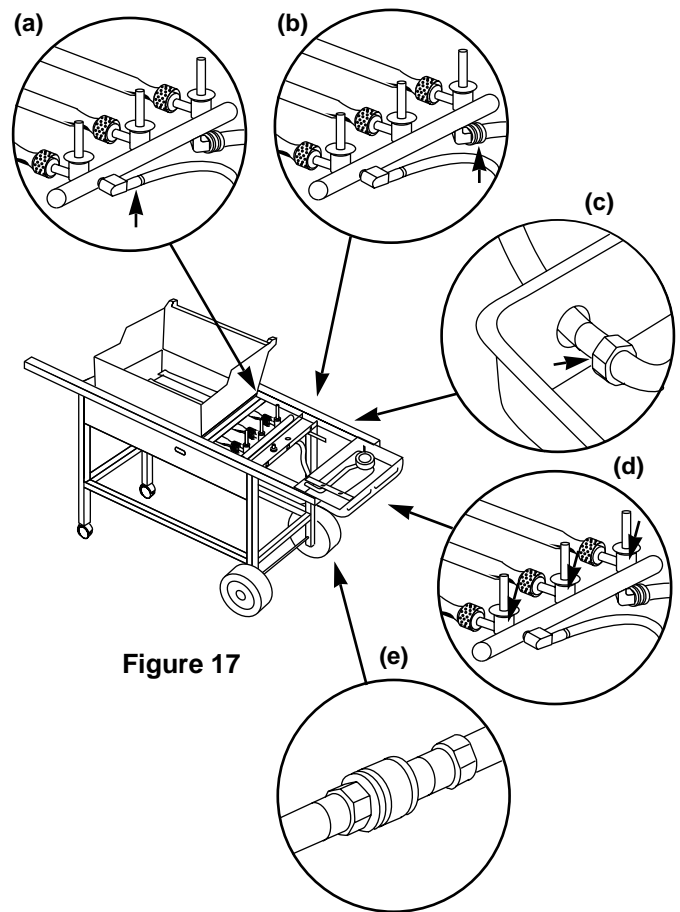

Figure 17
- a) Hose to manifold connection. Figure 17 (a).
- b) Manifold to side burner hose connection. Figure 17 (b).
- c) Side burner hose to side burner connection. Figure 17 (c).
- d) Valves to manifold connections. Figure 17 (d).
- e) Hose to quick disconnect connection. Figure 17 (e).